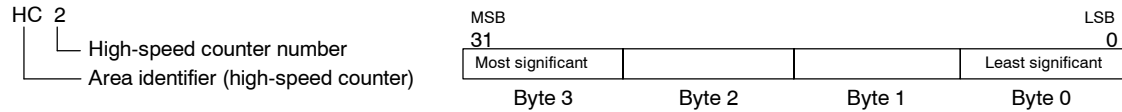

Figure 6-27 Accessing the High-Speed Counter Current Values
To access the count value for the high-speed counter, specify the address of the high-speed counter, using the memory type (HC) and the counter number (such as HC0). The current value of the high-speed counter is a read-only value that can be addressed only as a double word (32 bits), as shown in Figure 6-27.